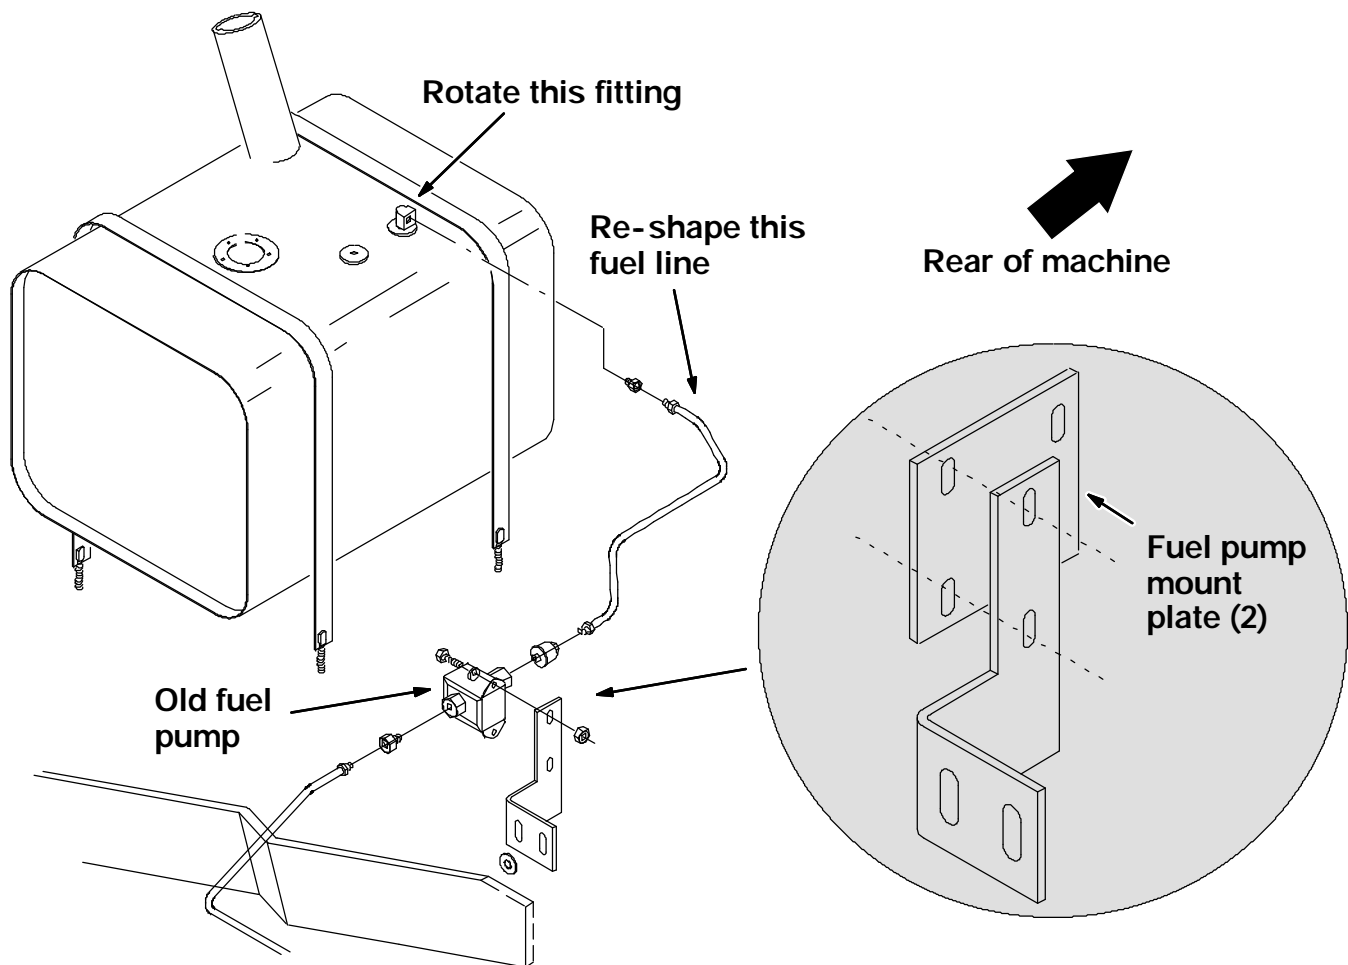

FIG. 1 - 800/810 Diesel Fuel Pump Installation
(Refer to FIG. 1)
5. Disconnect the two fuel lines at the old fuel pump. (Refer to Fig. 1)
6. Remove and retain the two hex screws holding the old fuel pump to the machine frame. Remove the pump from the machine. (Refer to Fig. 1)
7. Remove the fittings from the old fuel pump and install in the same orientation on the new fuel pump (1). (Refer to Fig. 1)
1. Install the new fuel pump mounting plate (2) on the machine using the two existing mount holes. Use the two hex screws (4), washers (5), and flange nuts (6) provided in this kit. (Refer to Fig. 1)
NOTE: The fuel pump mounting plate faces the rear of the machine. (Refer to Fig. 1)
3. Plug the new harness (3) into the main machine harness.
4. Position the new fuel pump on the mounting plate. Install the hardware that was removed in step 6 of the PREPARATION FOR 800/810 DIESEL instructions. (Refer to Fig. 1)
5. Reconnect the fuel lines. The fuel line that runs from the pump to the engine can be installed without any major modifications. The fuel line that runs from the tank to the pump may have to be re-shaped and the fitting on the tank rotated slightly in order for the fuel line to fit properly. (Refer to Fig. 1)
6. Reconnect the battery cables and start the machine. Check for any leaks at the new fuel pump. (Refer to Fig. 1)